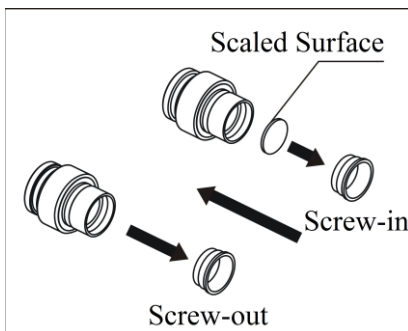

Fig. 8
- 1) Unscrew the pressure ring from eyepiece (see Fig. 8).
- 2) Clean the reticle, then install it into the pressure ring with the scaled surface upward (see Fig. 8).